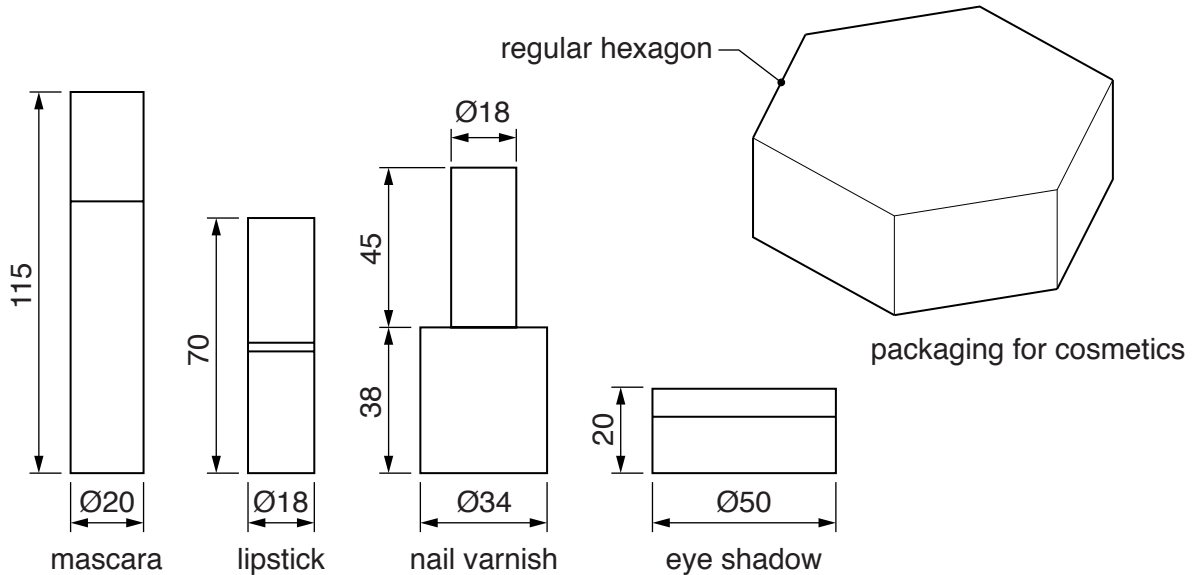

Fig. 9
- 8 Fig. 9 shows four items of cosmetics and an incomplete idea for the packaging to hold them. The packaging consists of three parts: